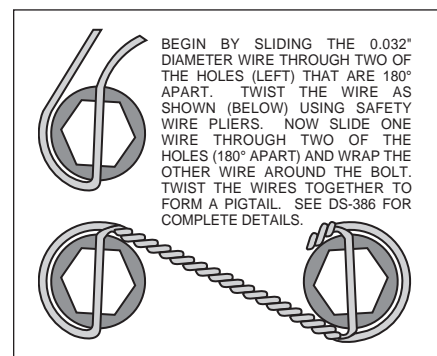

Figure 2. Safety Wire Diagram
• **NOTE:** When cross-drilled bolts are supplied with the rotor bolt kits, the additional step of safety wiring bolts is recommended. Safety wire bolts using standard 0.032 inch diameter stainless steel safety wire as shown in Figure 2. Refer to Wilwood's data sheet DS-386 (available at www.wilwood.com/Pdf/DataSheets/ds386.pdf) for complete safety wire installation instructions.